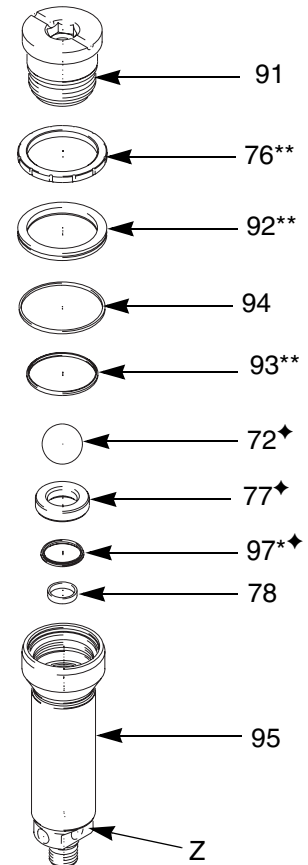
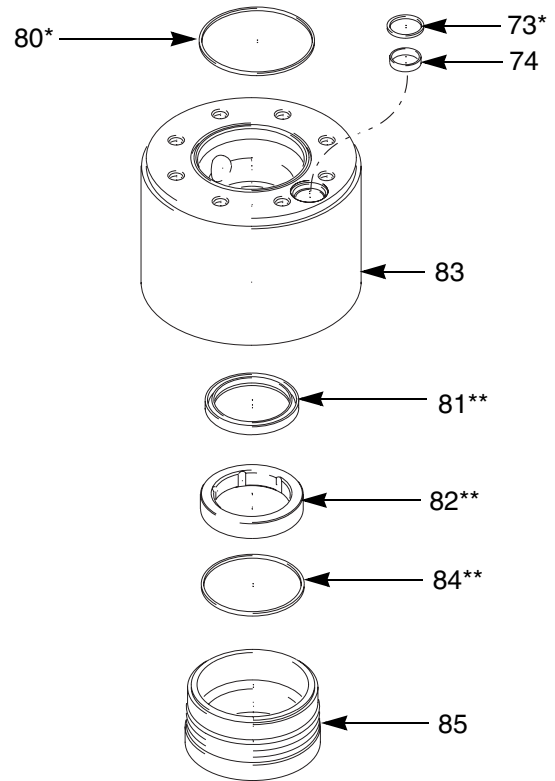

FIG. 12 Piston Assembly Breakdown
FIG. 13
4. Remove the cylinder (79).
6. Remove piston valve (91) from the piston. Be careful not to damage the surface of the piston during repair and maintenance work. Use only the flats (Z) to prevent the piston from rotating when removing the screw. (See FIG. 12.)
7. Note the positions and orientations of the guide ring (76**), the U-cup (92**), and the sealing ring (94) assembled onto piston valve (91). Remove these parts and replace with parts from the appropriate Packing Repair Kit (page 26).
9. Remove the sealing ring (93**) from inside the piston (95) and replace.
10. Note the positions and orientations of the packing retainer (85), the flat seal (84**), the guide ring (82**) and the U-cup (81**) as you remove them from the packing housing (83). Replace the soft parts with those included in the packing repair kit. See FIG. 13.
1. Insert the U-cup (81**), guide ring (82**), flat seal (84**), and packing retainer (85) into the packing housing (83). See FIG. 13.
2. Insert the sealing ring (93**) into the piston (95). Replace the piston (95) if it shows signs of wear. Check that ring (78) is in place. See FIG. 12.
3. Verify correct assembly of suction valve parts (97**♦, 77♦, and 72♦). See FIG. 12.
4. Assemble the guide ring (76**), U-cup (92**), and sealing ring (94) on the piston valve (91). See FIG. 12.
5. Install the piston valve (91) onto the piston (95). Retighten the piston valve (91) firmly. See FIG. 12.